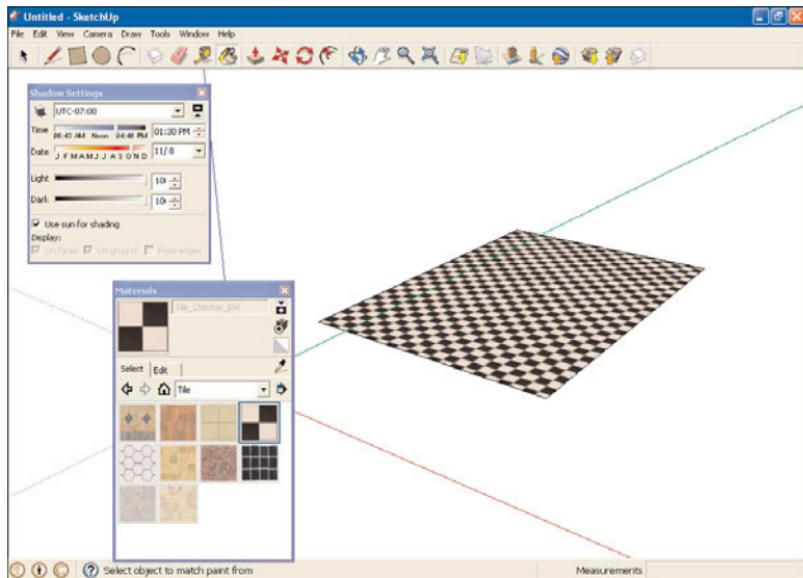

FIGURE 7.6 The Shadow Settings dialog box.
2. Select the Window menu’s **Shadow** item. This opens the Shadow Settings dialog box you see in the upper left of Figure 7.6.
Now the tile floor created in the previous task is not automatically shaded, as you can see in Figure 7.6.